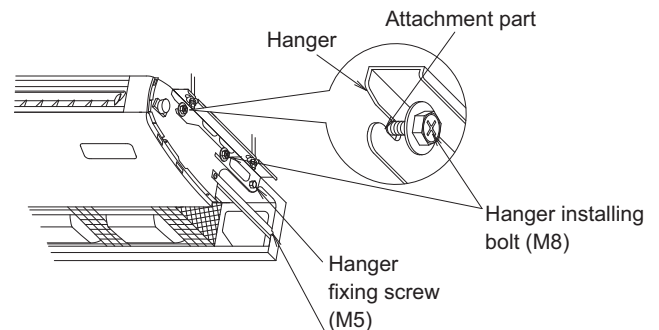

Fig. 11
- (2) Lift up the indoor unit, slide from the front and put the hanger installing bolt (M8) into the securely for temporary hanging. (Refer to Fig. 11)
- (3) Tighten the hanger fixing screws (M5) at 2 places, which were removed, as they were before. (Refer to Fig. 11)
- (4) Tighten the hanger installing bolts (M8) at 4 places properly. (Refer to Fig. 11)